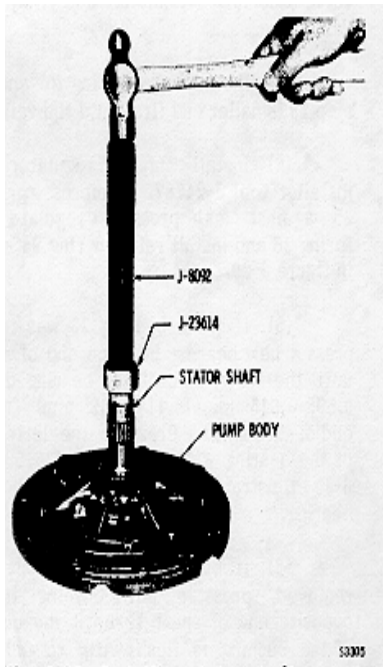

Fig. 6-31. Installing stator shaft front bushing
(6) If bushing 18 (B, foldout 5) was removed, press a new bushing into the opposite end of shaft 19 until the outer end of the bushing is flush with, to 0.005 inch (0.127 mm) below, the end of the shaft. Figure 6-31 illustrates the installation of the bushing using installer tool J-23614.